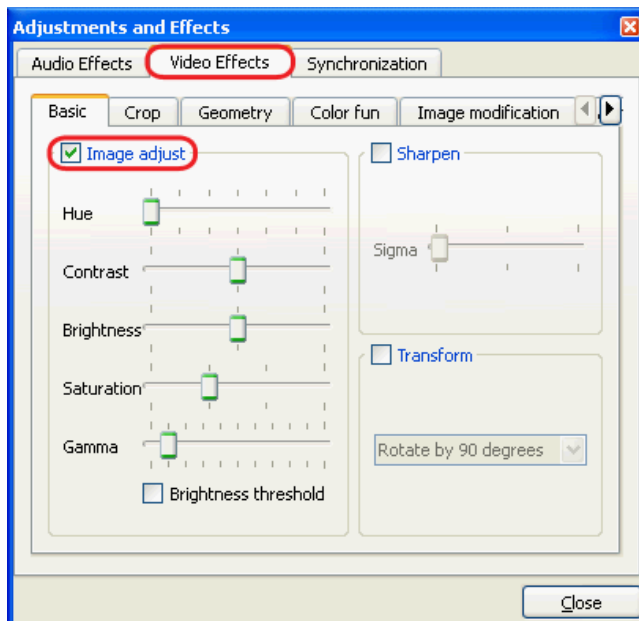

Figure 55. Adjustments and Effects Window
- The Adjustments and Effects window appears. Click the **Video Effects** tab and under the **Basic** tab, select the **Image adjust** check box (see figure 55). Image settings are now able to be configured.